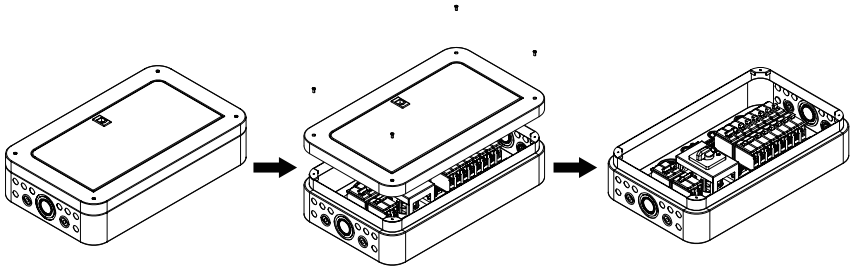

Figure 2.2 Remove Front Cover
1) Take out the screw from the front cover of Sub Panel and remove it as Figure 2.2.